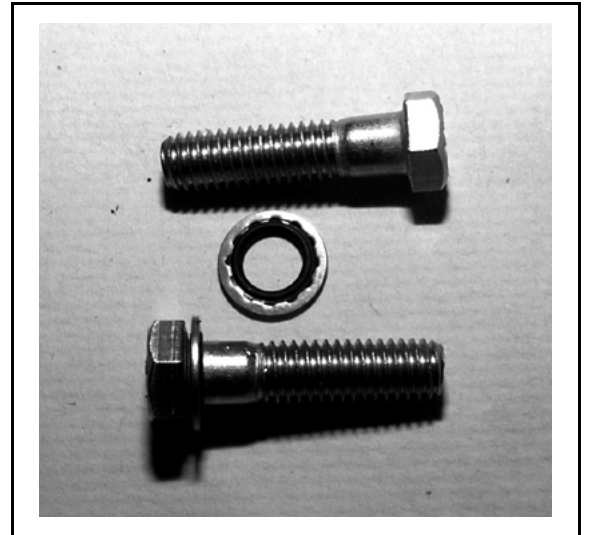

FIGURE 17 (MSSM0275AE)
5. Place an *o-ring equipped washer* under each bolt (FIGURE 17), apply Loctite 242 to each *seal holder* bolt, then install and torque to specifications. See "MSSM0101CE...FASTENER TORQUE REQUIREMENTS."